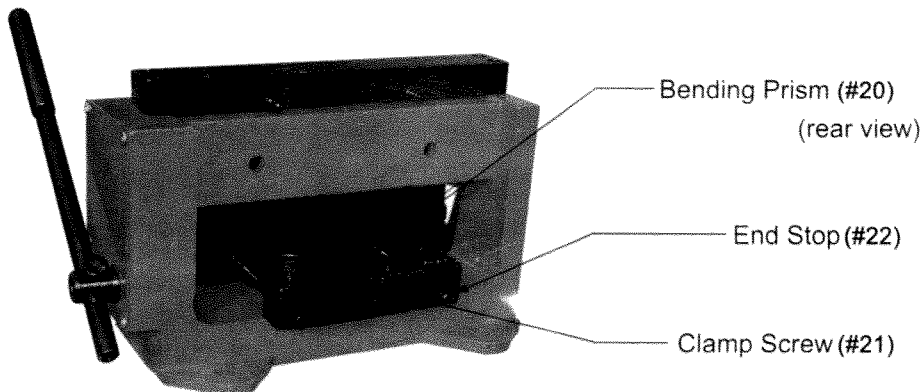

Figure4 - Loosening the Clamp Screw
Step 1: Loosen the CLAMP SCREW (#21) located on the backside of the Shear/Brake as shown in Figure 4.